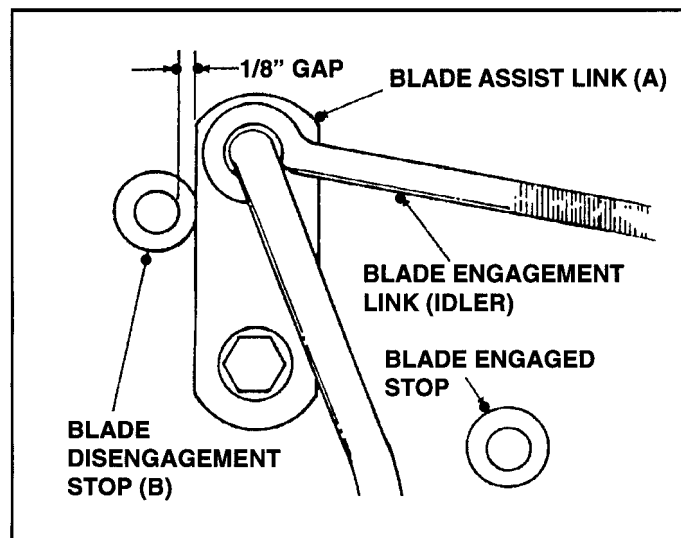

FIGURE 5.13
- Check the Deck Idler to see if there is a 1/8" gap between the Blade Assist Link (A) and Blade Disengagement Stop (B). See Figure 5.13.
- Adjust the Blade Brake Carriage Bolt (E) IN or OUT until there is a 1/8" gap between the Link (A) and Stop (B). See Figures 5.13 & 5.14.
(Follow Step A. in 5.7 and refer to Figures 5.13 & 5.14)
- Adjust the Blade Brake Carriage Bolt IN or OUT until there is a 1/8" gap between the Link (A, Fig. 5.13) and Stop (B, Fig. 5.13).
- Tighten Jam Nut (F).